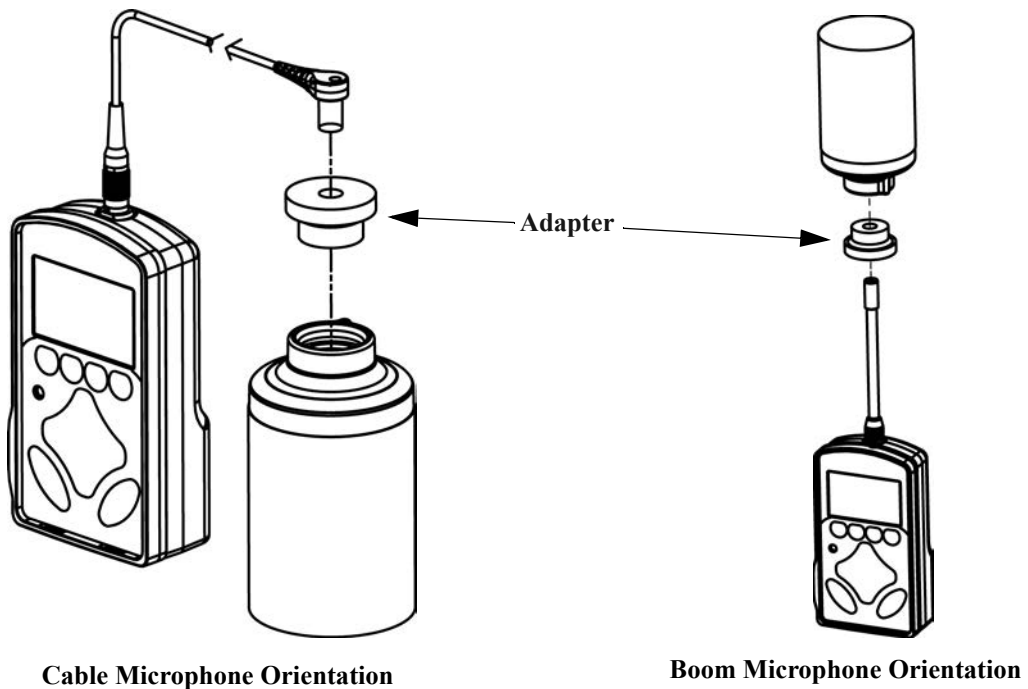

Figure 3–1: Calibration orientations and assembly
3. Orient for either the cable-mounted or boom-mounted microphone as illustrated in Figure 3–1, then press the adapter into the calibrator.